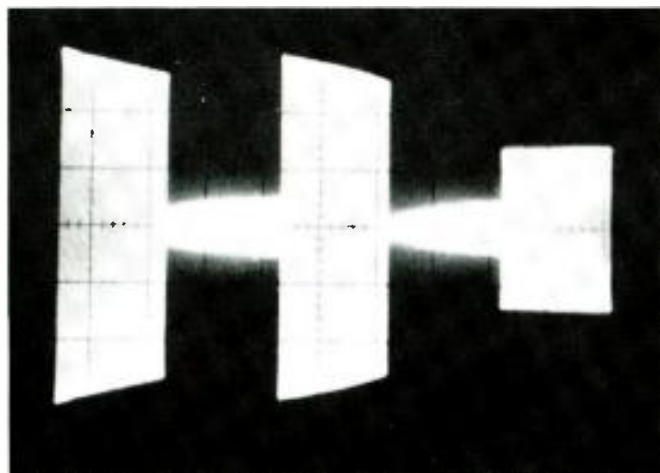
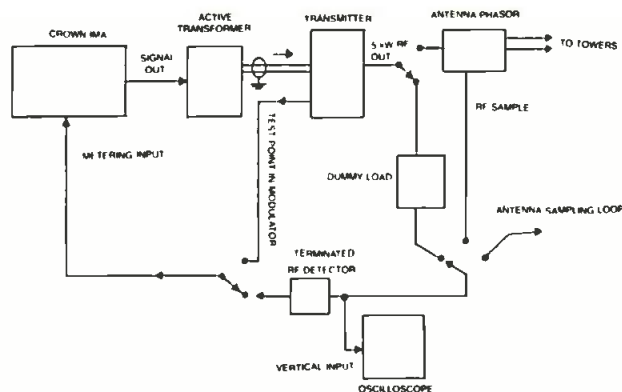

Fig. 2. Low frequency pulse results after modification
Fig. 3. Diagram of test hookup for IM distortion tests
1. Phasor Controls. The phasor input circuit is very important in maintaining the desired common point impedance. This is the last link between the antenna system and the transmitter output. Almost any changes made to the system on the antenna side of this circuit will change Z_{cp} . If the phasor input circuit is properly designed, it is a simple matter to reset Z_{cp} . Shown in Figure 2 is a phasor input circuit that is typical of some older installations. There are probably very few unmodified phasor input circuits still in use because of the difficulty in obtaining the desired impedance when antenna system parameters change. This type of circuit can be changed to Figure 3,
At this point, calculations were made to determine the low frequency time constant of each stage's coupling circuit. Once these were obtained, new increased capacitance values were calculated that would provide a flatter square wave response at low frequencies. Premium quality, high temperature electrolytics were chosen for high reliability under continuous service. After the new capacitors were installed, a substantial improvement was observed in the square wave pulse response. The modulator was then reconnected to the transmitter and RF feedback reapplied. The low frequency pulse test was run again and the results appear in Figure 2. Also, the common point (antenna system input) RF sample waveforms were similar to those of the dummy load.
The next step undertaken in WTAE's testing program was the measurement and minimizing of intermodulation distortion (IM) in both AM transmitters. This setup procedure involved using a Crown IMA intermodulation distortion analyzer set up for 60 Hz and seven kHz tones at a four to one ratio (the SMPTE standard). The unbalanced output of the IMA was fed to the active transformer, then to the transmitter audio input. The transmitter output was on the dummy load, with the RF sample from the dummy load terminated into a low distortion RF detector, the output of which was fed back to the metering input of the IMA. It is very important to use a low distortion RF detector when doing IM tests to prevent erroneous readings caused by detector non-linearities. Figure 3 illustrates the IM testing set-up.